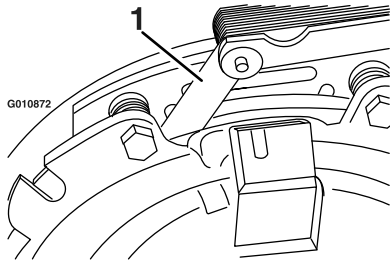
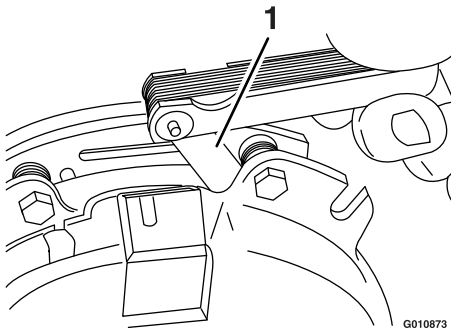

Figure 74
Figure 75
- E. Using a 0.010 inch thick-feeler gauge, verify that a gap is present between the rotor and armature face on both sides of the brake pole as shown in Figure 74 and Figure 75.